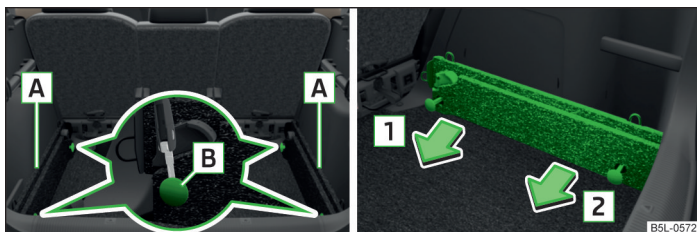

Fig. 89 Slacken check points/remove carrier rails
- Slacken the check points » Fig. 89 on the carrier rails using the vehicle key or a flat screwdriver.
- Press the two securing points » Fig. 89 on each carrier rail to the stop.